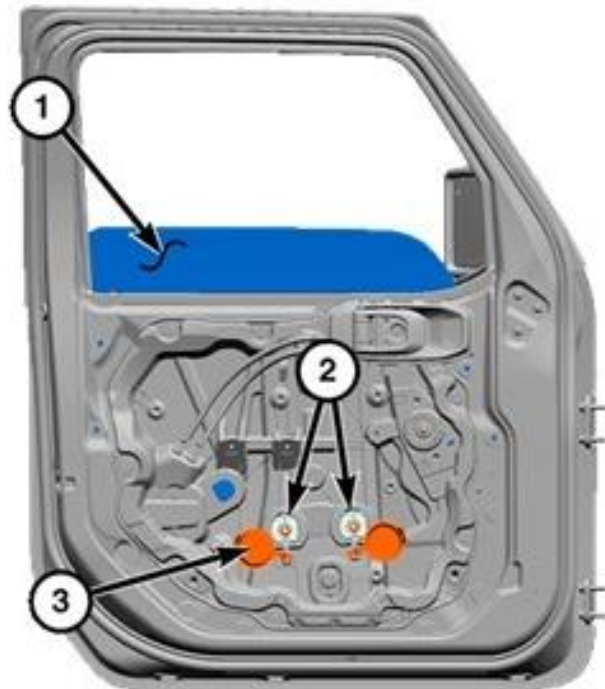

Figure 7 – Window Glass
12. Open the window glass fastener access plugs (3) and position aside (Figure 7).
13. Raise or lower the window glass (1) until the glass fasteners (2) line up with the access holes (Figure 7).
14. Loosen the glass fasteners (2) (Figure 7). **Do not remove the fasteners.**